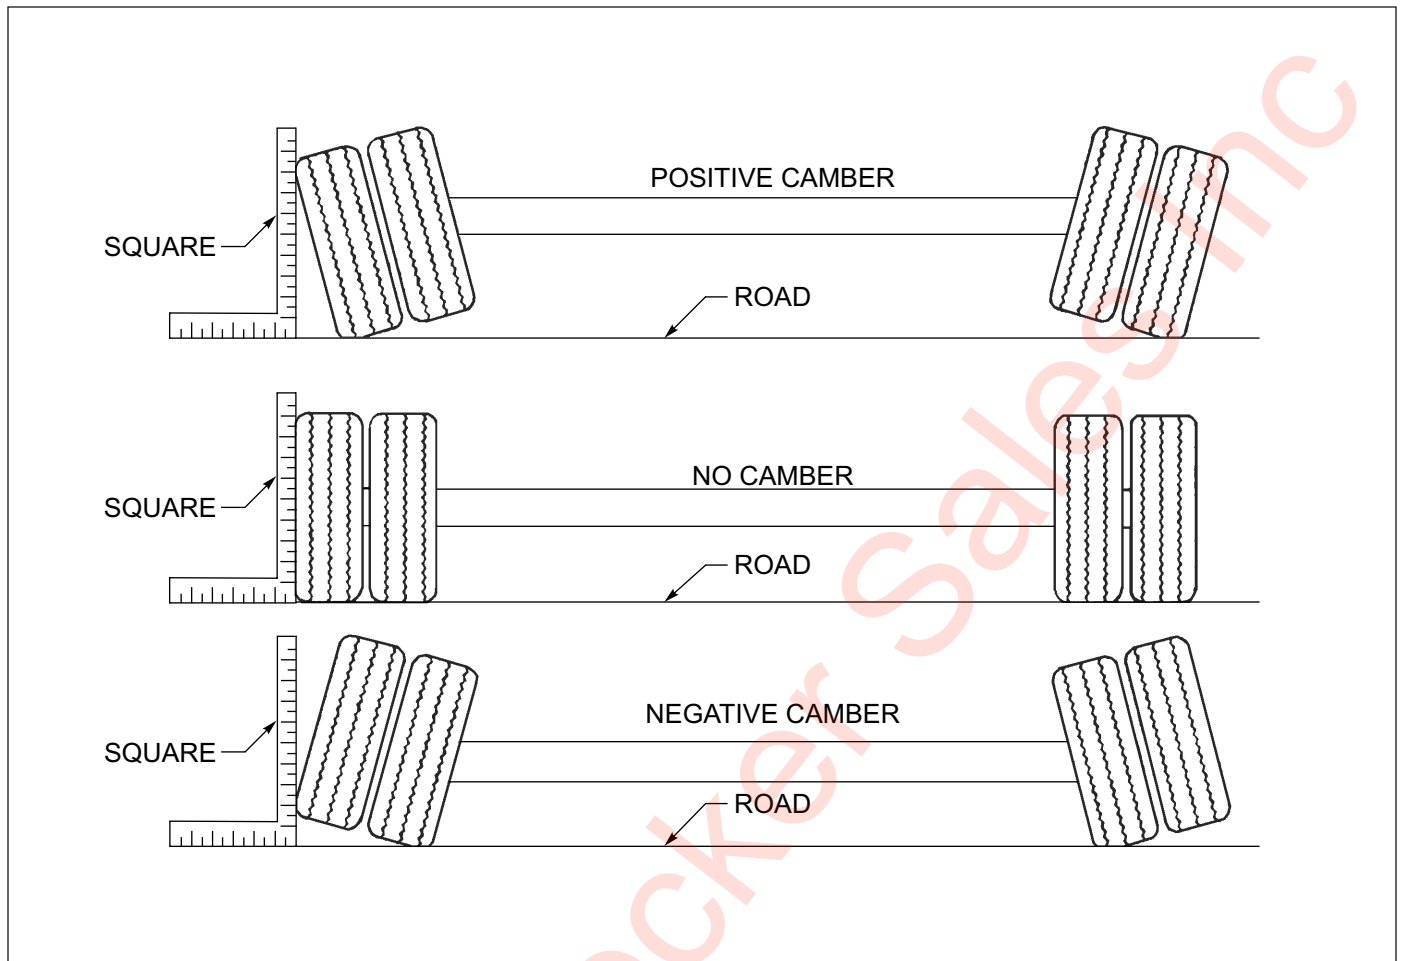

Figure 4-11: Examples of Camber
4. Follow the same procedures as in steps 2 and 3, except place the axle gauge above and below the axle. If gauge point gap is found, the axle has positive or negative camber. The trailer axle has no camber from the factory. If it is found to have positive or negative camber, axle replacement is necessary for examples of camber (See Figure 4-11.)